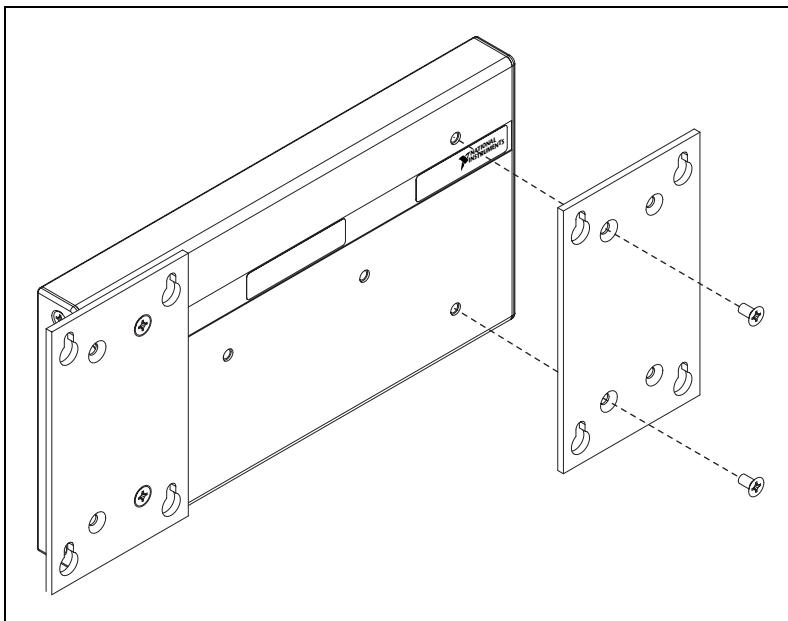

Figure 2-4. Fastening the Panel-Mount Plates to the cFP-BP-4 Backplane
1. Fasten the two plates of the panel-mount kit to the back of the cFP-BP-*x* using a number 2 Phillips screwdriver and the 8-32 \times 5/16 in. countersink screws shipped with the kit. These screws have a nylon coating to prevent them from loosening. Refer to Figures 2-4 and 2-5.